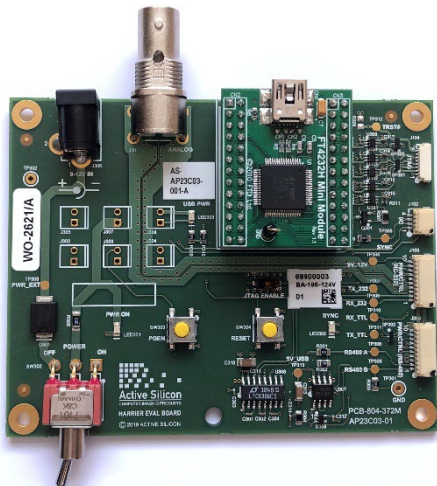

Figure 3. Harrier Evaluation Board
- Harrier Evaluation Board (Figure 3)